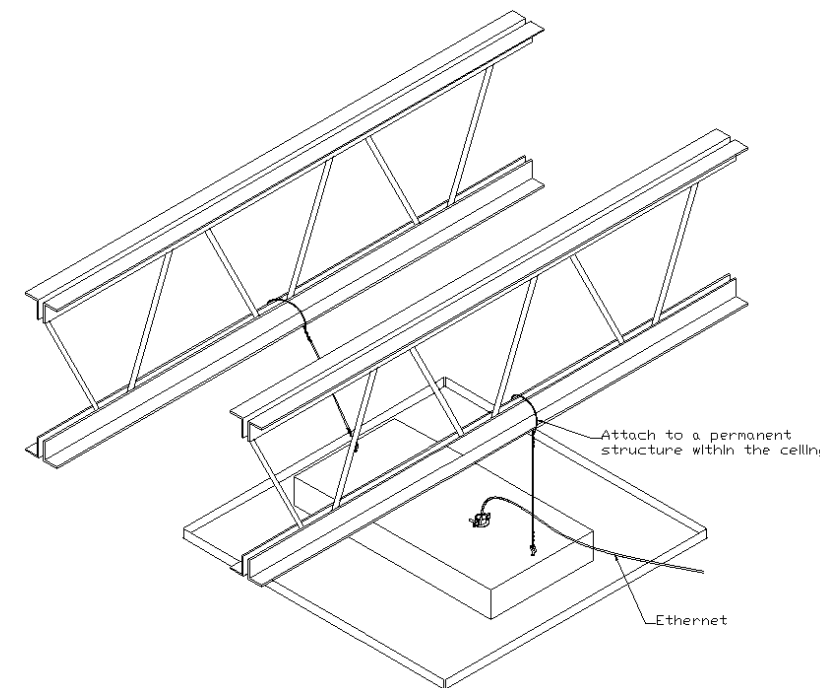

Figure 4 – Installation of grid wires and Ethernet cable.
Step 5 – Use minimum 12-gauge grid wire to attach the AP mount to the ceiling. Attach one end of the wire to the support tabs and the other end to a permanent structure within the ceiling such as a ceiling joist (reference Figure 4).